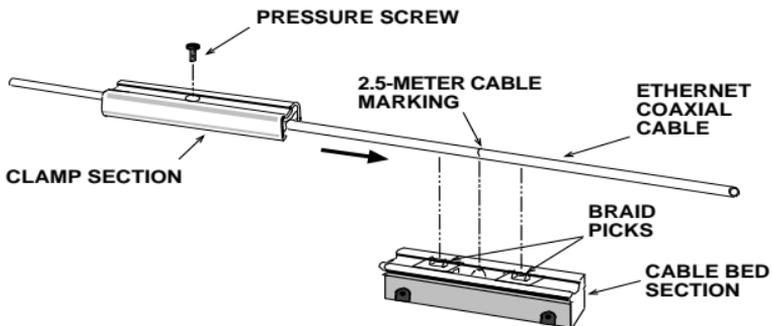

Figure 2-4. Installing the Cable Clamp
3. Determine the location for the tap on the coaxial cable. (Some cables are marked at 2.5-meter (8.2-feet) intervals to indicate tap locations.) Position the cable over the braid picks in the cable bed section (see Figure 2-4). Slide the clamp into the guide slots on the cable bed.